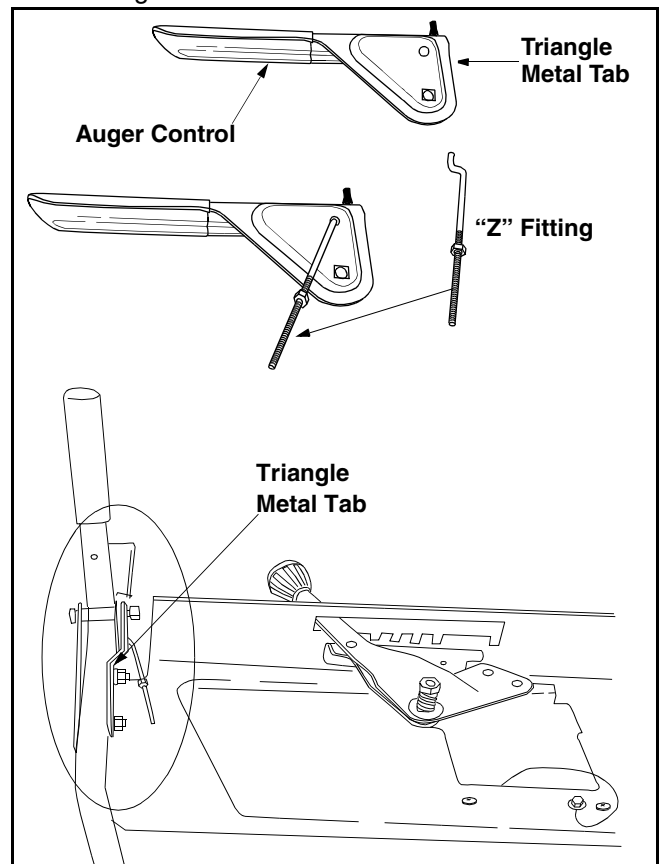

Figure 3
- Insert curved end of the Z fitting into the top hole in the triangular metal tab on the auger control grip. The triangular metal tab on the auger control grip must face the center of the handle panel. See Figure 3.
- Place the auger control on top of the left handle. The triangular metal tab must be between the handle and the bracket. See Figure 3.